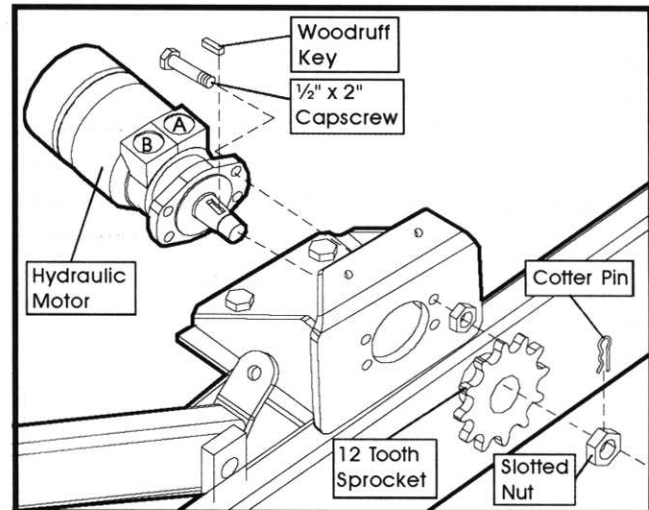

FIGURE 2
5. Refer to Figure 2. Using 1/2" x 2" capscews shown, attach hydraulic motor to motor mount assembly in orientation shown.